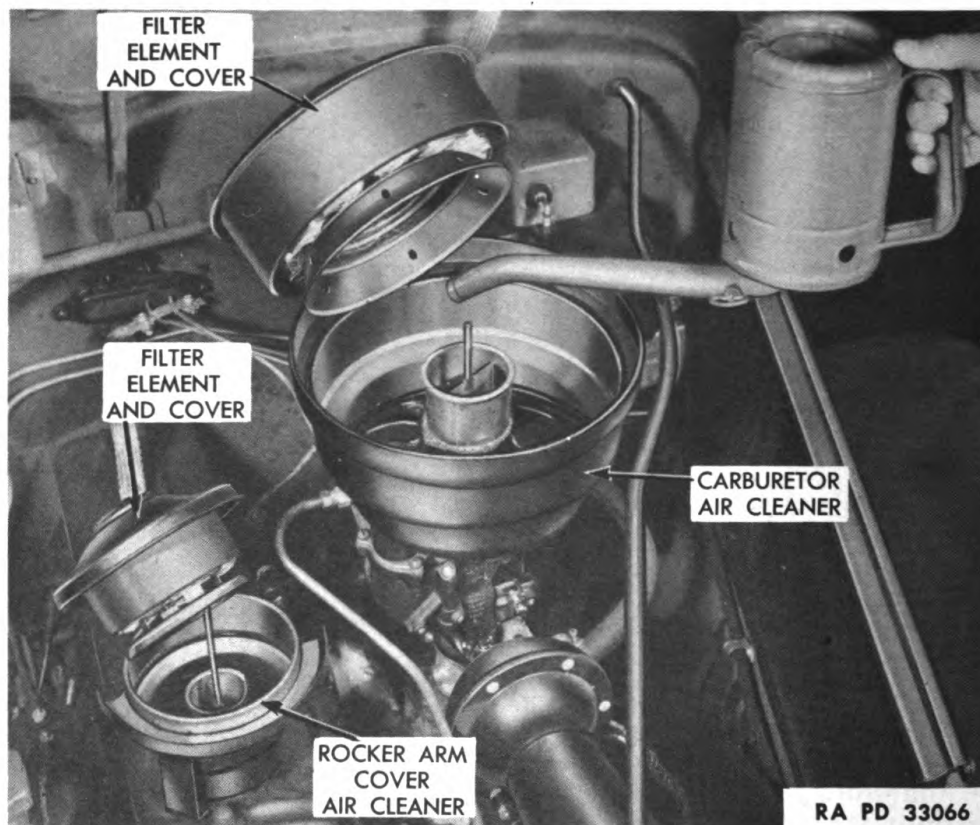

Figure 22—Filling Oil Bath Air Cleaners
(2) Empty the oil out of the cleaner, and clean out all oil and accumulated dirt. Wash body with dry-cleaning solvent and wipe dry. Wash filter element by slushing up and down in dry-cleaning solvent. Dry thoroughly, either with an air hose, or by letting it stand until dry. Fill the body of the cleaner with engine oil, crank-case grade (fig. 22).
(3) It is not necessary to reoil the filter element, as this is done automatically when the vehicle is driven.
(4) Reassemble the filter element in the body of the cleaner, being sure that the flange sits flat against the top flange of the body.
(5) Reassemble the cover, making sure that the gasket is clean and in good condition over its entire surface, so that a tight seal is obtained at this point. Install wing nut.
(6) Reassemble the cleaners to the carburetor and rocker arm cover. The carburetor cleaner must be put on so that it rests against the carburetor to assure a good seat at this point; then tighten clamp.
(1) The crankcase breather air cleaner on the valve rocker arm cover should be serviced periodically at the same time as the carburetor air cleaner (par. 77 b). Both air cleaners use the same type oil as used in the engine.
(2) Remove the crankcase breather air cleaner from the valve rocker arm cover, empty out the old oil, and clean out any accumulated dirt. Wash the cleaner body with dry-cleaning solvent and wipe dry.
(3) Wash the cleaner filter element in dry-cleaning solvent and wipe dry.
(4) Fill the body of the crankcase breather air cleaner with engine oil of the viscosity used in the engine to the level indicated on the side of the cleaner body (fig. 22). The capacity of the crankcase breather air cleaner is $\frac{1}{2}$ pint.
(5) Approximately every 5,000 miles, remove the crankcase ventilator to metering valve pipe assembly, and the metering valve assembly. Disassemble the metering valve, and clean all parts thoroughly in dry-cleaning solvent. Wipe all parts dry, and reassemble the valve assembly. Blow out the crankcase ventilator to metering valve pipe assembly with compressed air, or clean out with dry-cleaning solvent. Dry thoroughly.
(6) Reinstall the crankcase ventilator to metering valve pipe assembly and the metering valve on engine, being sure that all pipe connections are tight. Any air leak in the passage from the oil filler